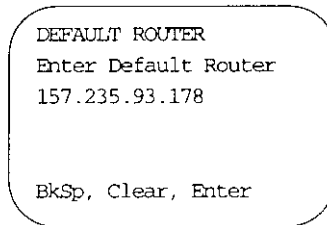

Figure 4-5. Default Router Screen
- d. Select **Default Router** from the main configuration menu. The *Default Router* screen (Figure 4-5) is displayed.